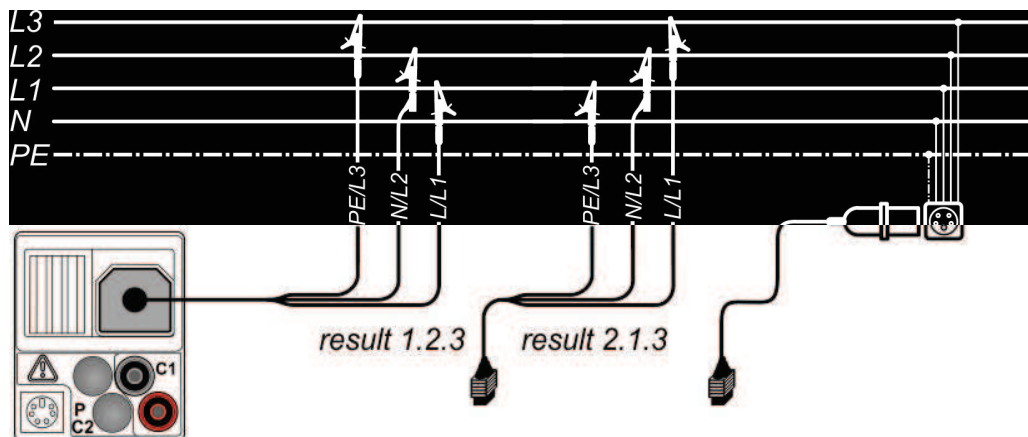
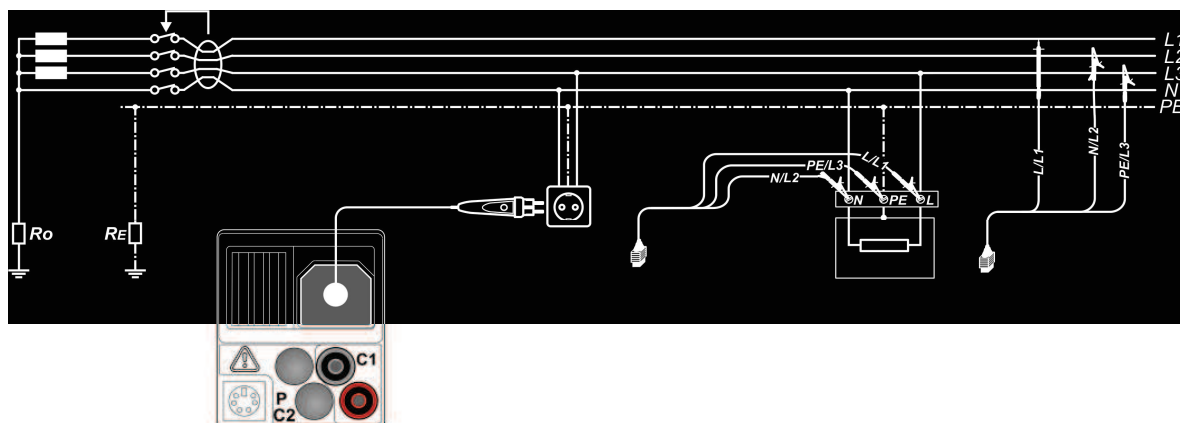

Figure 5.2: Connection of the three-wire test cable and the optional CEE measuring adapter (044148) in a three-phase system
Figure 5.3: Connection of the optional "Commander" test plug (044149) and the three-wire test cable in a single-phase / three-phase system
- ❑ Connect the test cables to the test object (see figure 5.2 and figure 5.3).